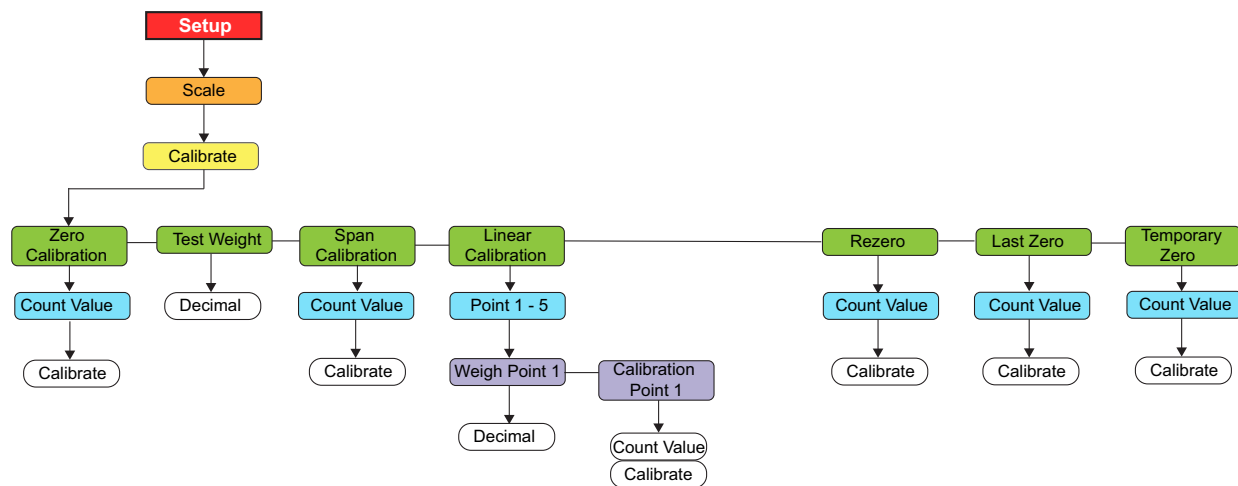

Figure 4-1. Calibration Menu
- Put the indicator in setup mode (Figure 3-1 on page 30) (or use  if audit trail is enabled), and navigate to **Calibrate** (Figure 4-1 on page 53).